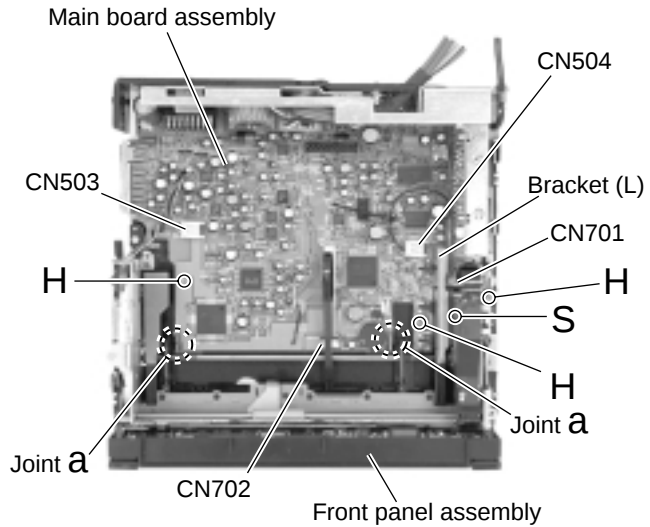

Fig.6
■ Removing the main board assembly (See Fig.6 to 8)
1. Remove the screw **S** attaching the bracket (L).